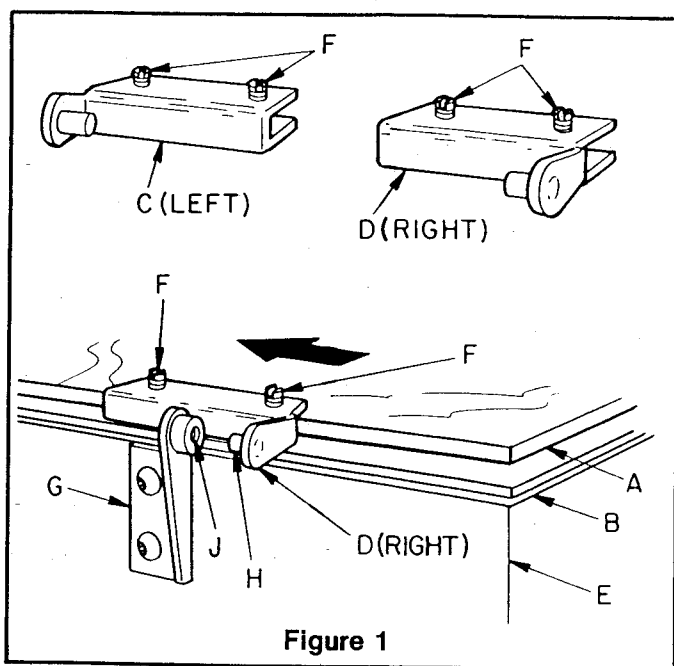
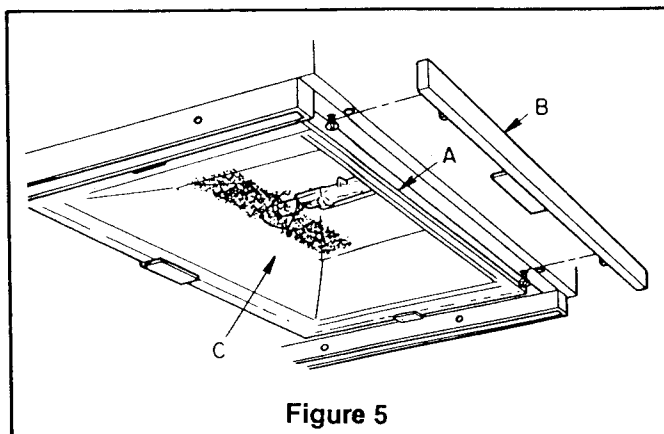

Figure 1
Figure 5
3. Position vacuum glass (A-Fig. 1) on top of the vacuum frame (B-Fig. 1). Locate the two male vacuum glass hinges (C,D-Fig. 1). The hinges will be marked "L" and "R" or "LEFT" and "RIGHT." With the back of the unit facing you the right hinge (D-Fig. 1) will go on the right side of the unit (E-Fig. 1). Loosen the two glass retention screws (F-Fig. 1) on top of the right hinge (D-Fig. 1). Slide the hinge onto the glass to the right of the female vacuum glass hinge (G-Fig. 1) (already on unit). Next, slide the hinge to the left engaging the post on the upper hinge section (H-Fig. 1) with the hole on the lower hinge section (J-Fig. 1). Tighten the two glass retention screws to secure the glass. Repeat the process for the left hinge. When installed correctly you should not be able to move the glass from side to side. If there is any side-play, loosen the glass retention screws on one of the hinges, remove play by pushing the hinges toward each other and tightening the screws. Open and close the vacuum glass a few times to make sure it operates properly.
12. To install the reflector glass (A-Fig. 5), loosen the two screws and slide the metal retainer (B-Fig. 5) out. Slide reflector glass into position so that it rests on 2 side clips and rear clip. Make sure the dot pattern on the glass (C-Fig. 5) runs from side to side and is on the bottom side of the glass. Put retainer back into position and firmly secure the glass. Unit will not operate without this glass in position.
4. If you need a replacement reflector glass (A-Fig. 5), order part number LC22. To order a replacement vacuum glass (A-Fig.1) order part number LC97.
2. Next, install a leg leveler screw (A-Fig.1) into the bottom of each floor stand leg (B-Fig.1) as shown. Screw leveler in about halfway up the length of the shaft (C-Fig.1). Do this for all 4 legs.